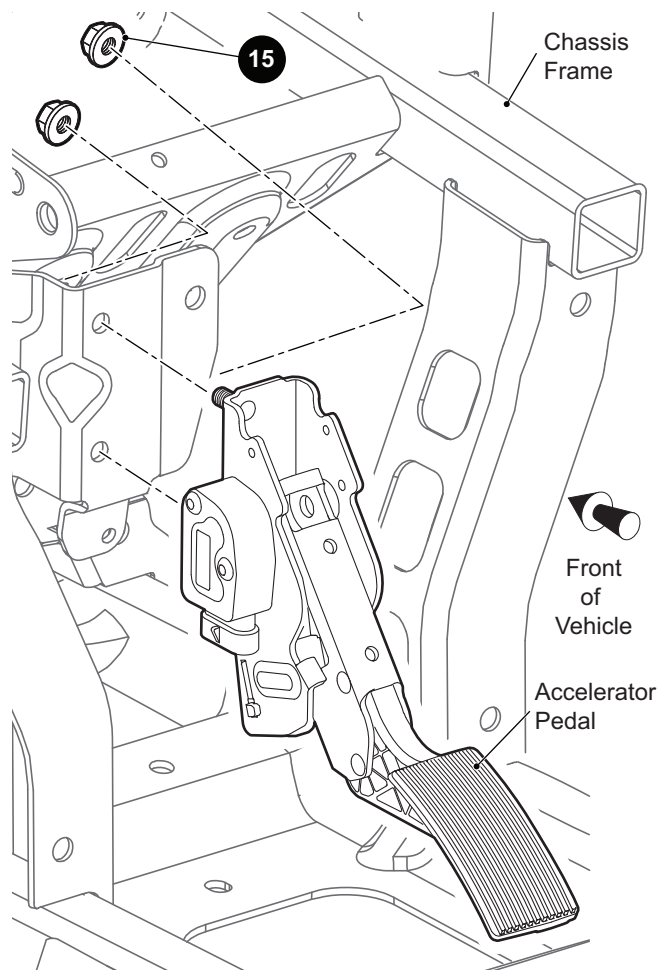

Fig. 11 Accelerator Pedal
2. From under the vehicle, remove the two nuts that secure the accelerator pedal to the vehicle frame (Ref. Fig. 11).